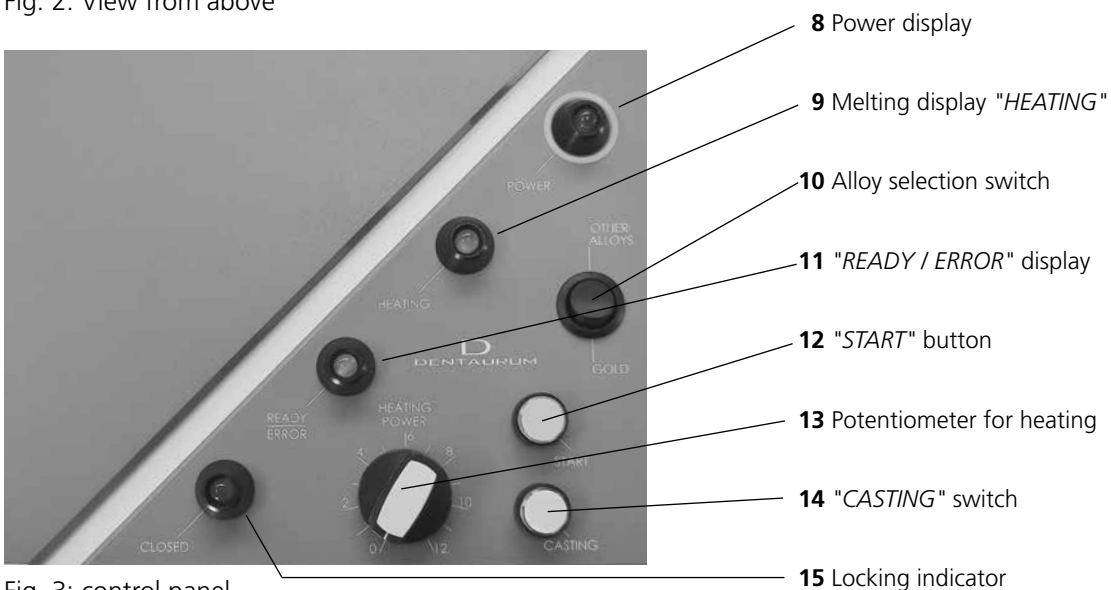

Fig. 3: control panel
- The heating element, the induction coil (Fig. 4, Pos. 18), is situated in the base of the chamber and can be raised into position by pressing the „START“ button (Fig. 3, Pos. 12) after having adjusted the casting arm.
- The melting process is completed by pressing the „CASTING“ button (Fig. 3, Pos. 14).
- Once the water is circulating properly, the „READY / ERROR“ display (Fig. 3, Pos. 8) will light up green.